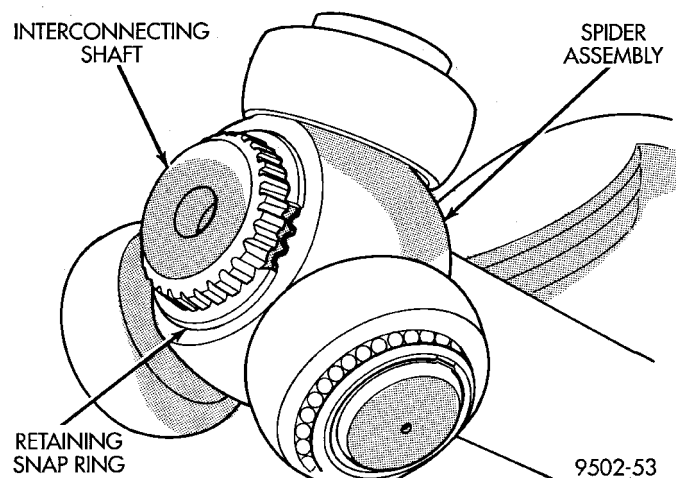
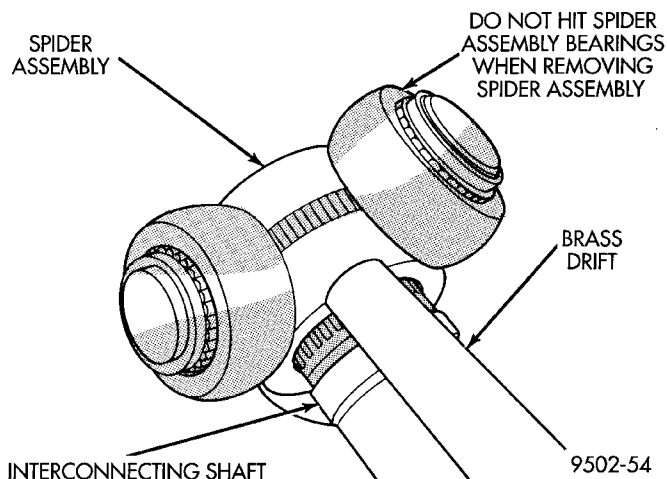

Fig. 28 Spider Assembly Retaining Snap Ring
Fig. 29 Spider Assembly Removal from Interconnecting Shaft
(4) Remove snap ring that retains spider assembly to interconnecting shaft (Fig. 28). Remove the spider assembly from interconnecting shaft. If spider assembly will not come off interconnecting shaft by hand, it can be removed by tapping spider assembly with a brass drift (Fig. 29). **Do not hit the outer tripod bearings in an attempt to remove spider assembly from interconnecting shaft.**
(5) Slide sealing boot off interconnecting shaft.
(6) Thoroughly clean and inspect spider assembly, tripod joint housing, and interconnecting shaft for any signs of excessive wear. **If any parts show signs of excessive wear, the driveshaft assembly will require replacement. Component parts of these driveshaft assemblies are not serviceable.**